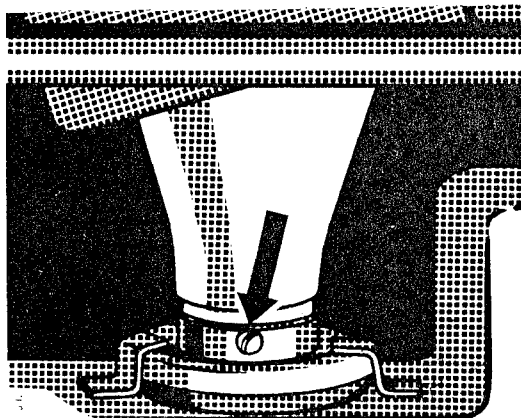

Fig. 12
16. Remove stabilizing bar bushing covers, move stabilizing bar down. Fasten the short rubber support at the bottom of the exhaust duct. Insert the exhaust duct into the exhaust tube in heater. Fasten rubber support to the diagonal chassis member through hole provided, making certain that the exhaust duct does not block the parking brake lever shaft. Drill a 3.2 mm hole, from the bottom, in the exhaust duct (see Fig. 12), and screw in a 4 mm sheetmetal screw to keep the duct from loosening turning. Reinstall stabilizing bar.